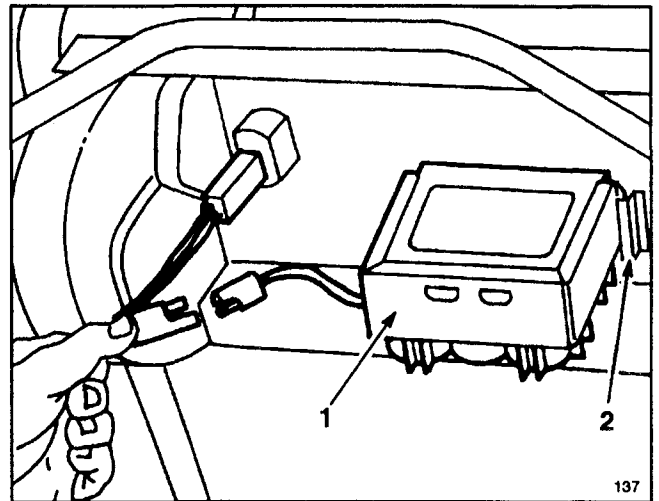

Figure 6
1. Refer to Charging Battery, page 17. Slide battery, decal side up, between mounting tabs on back of control panel and connect wires (Fig. 6). Insert key into switch when ready to start engine.